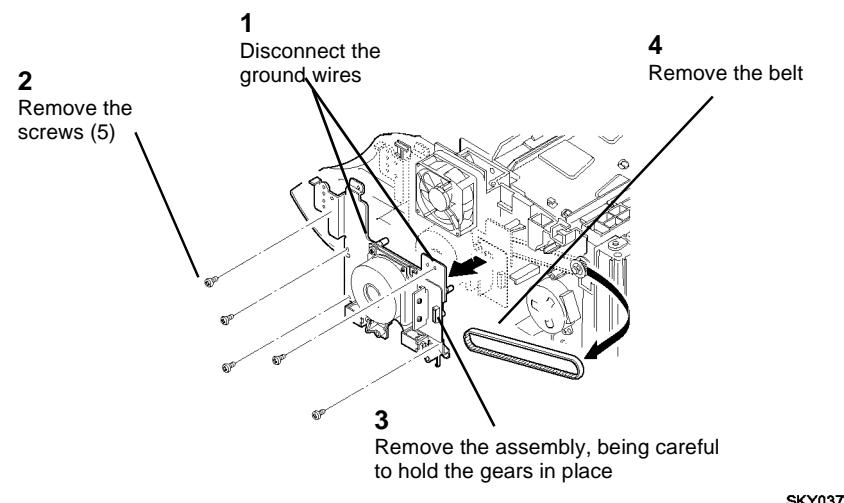

Figure 2 Removing the Main Drive Assembly
3. (Figure 2): Remove the Main Drive Assembly and the Exit Drive Belt.